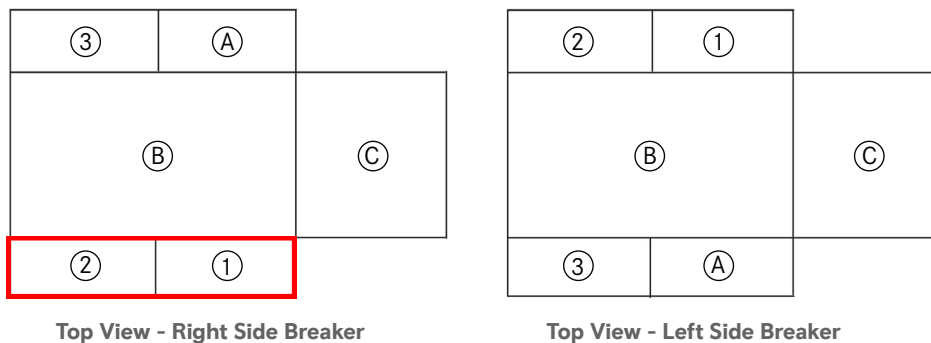

Figure 2: 430 Frame Enclosure Breaker Mounting Positions
- Reference Figure 2 and Table 2 for breaker mounting positions.